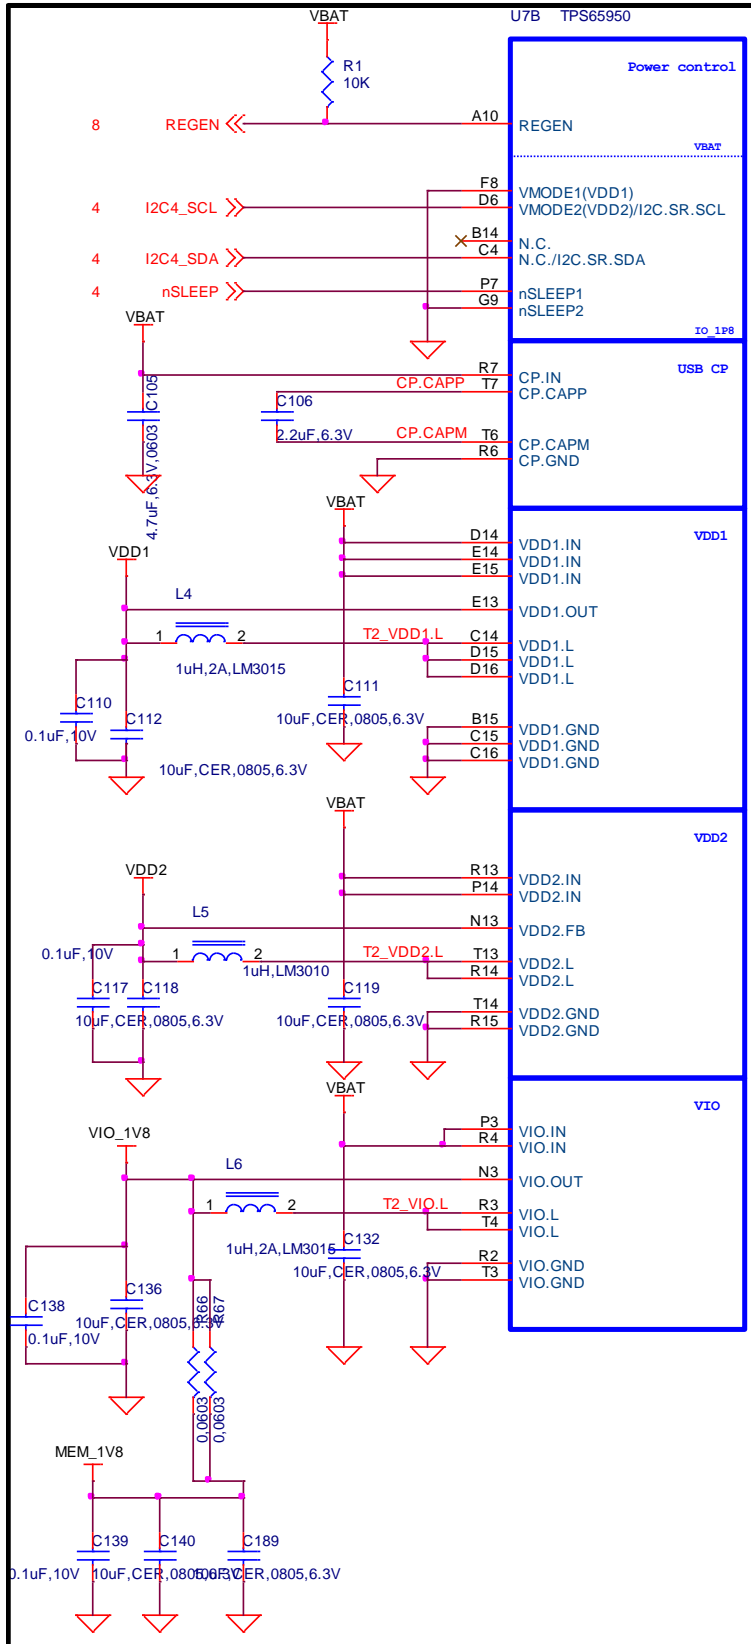

Figure 25. Main Power Rails
**Figure 25** is the power conditioning section of the BeagleBoard.